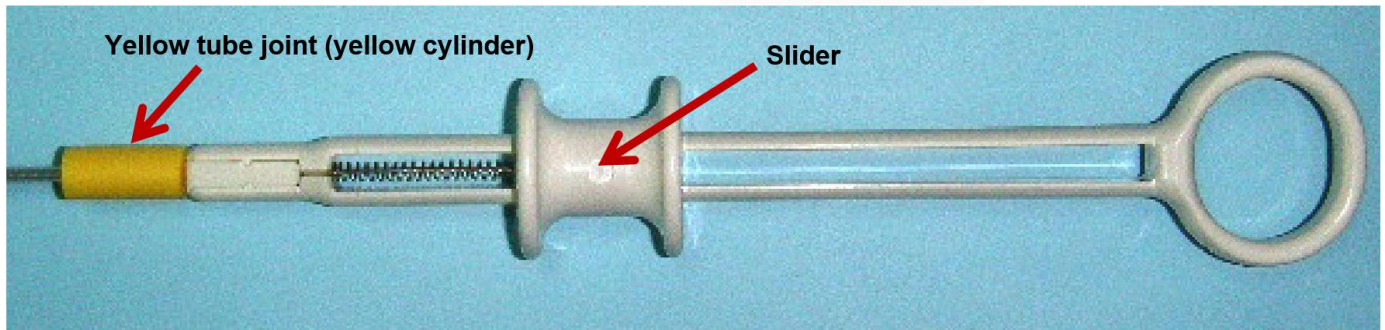

Figure 1
- Inadvertent or intentional movement of the yellow tube joint (cylinder) away from the device handle during use. Intentionally moving the yellow tube joint away from the handle to prematurely tighten the loop during use may cause the inability to release the ligation loop. (See figure 1 below.)